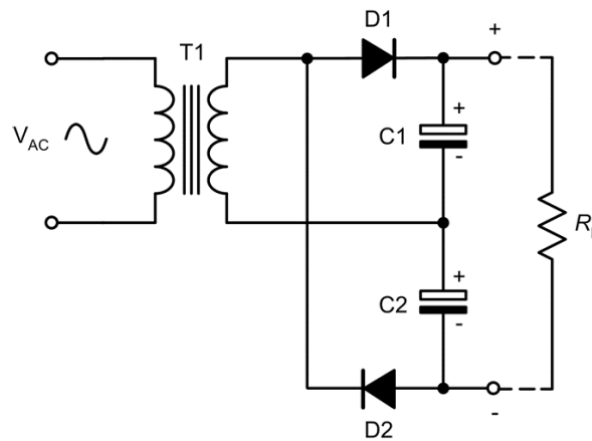

Figure 1.19 A voltage doubler
- By adding a second diode and capacitor, the output of the simple half-wave rectifier can be increased. A voltage doubler using this technique is shown in Fig. 1.19.